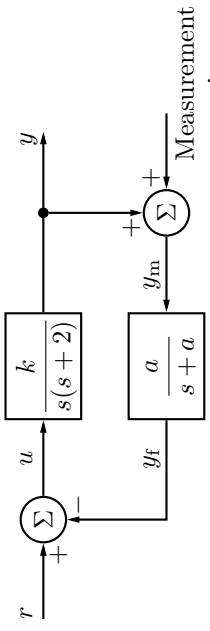

Figure 3.11a
- 3.11 Consider the system in Figure 3.11a. In a realistic situation what you really measure is not $y(t)$ but a signal $y_m(t)$ which is the sum of $y(t)$ and measurement noise. To avoid that the control is based on noisy measurements one uses $y_f(t)$ instead of $y_m(t)$. The signal $y_f(t)$ is $y_m(t)$ filtered through the low pass filter